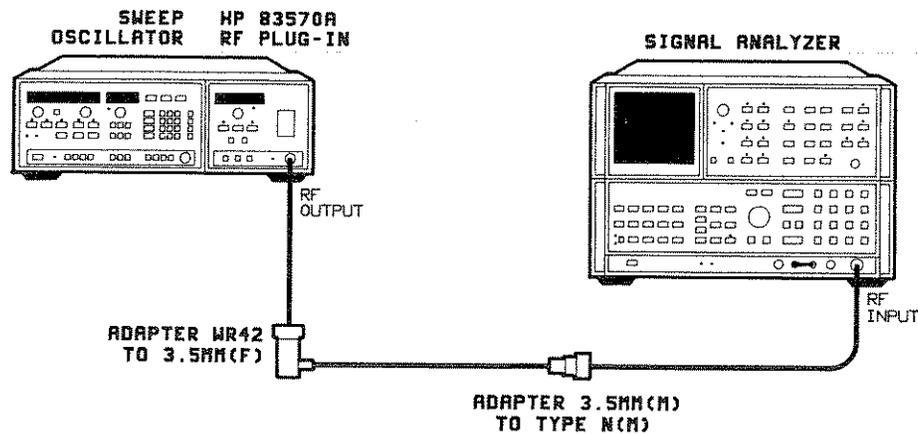

Figure 4-7. Spurious Signals Test Setup
1. Connect the equipment as shown in Figure 4-7 and allow at least one hour warm-up.